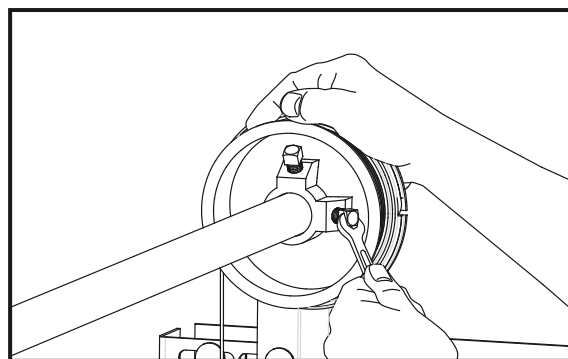

Fig: 3.6.3
- h) Once the cable is taut, slide the cable drum against the side bearing bracket and tighten the screws to the torsion bar. Fig 3.6.3.